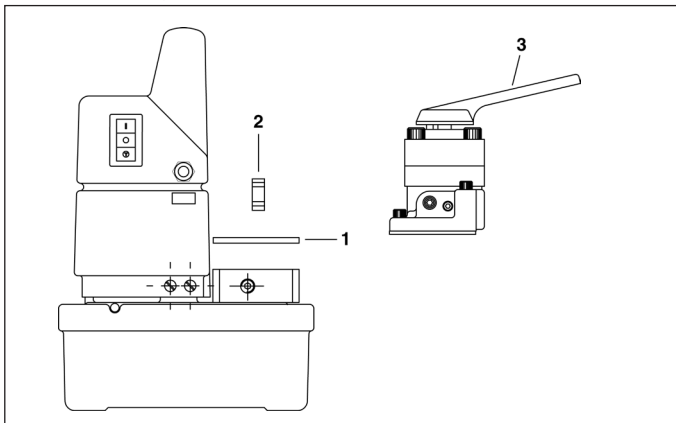

Figure 5
4.2 Sequence de Montage (Figure 5)